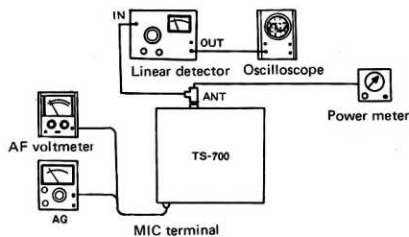

Fig. 26
4) Referring to Fig. 26, adjust to obtain an AG output of 2 mV and 1.5 kHz.
- 6) Turn SSB-MIC-GAIN clockwise all the way. As shown in Fig. 26, connect the AF vacuum-tube voltmeter and audio generator (AG) to the MIC terminal.